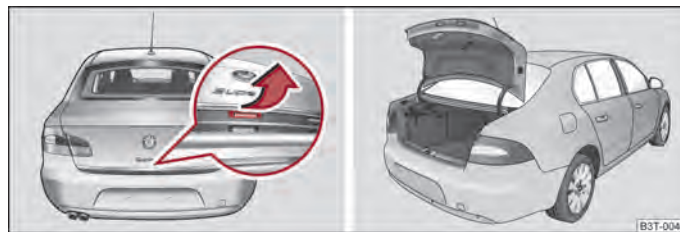

Fig. 17 Handle of boot lid/opened small boot lid
After unlocking the vehicle with the remote control key or the key ⇒ page 38 you can open the small boot lid ⇒ fig. 17.
- Press on the handle at the bottom side of the boot lid ⇒ fig. 17 - left, the boot lid lifts up automatically ⇒ fig. 17 - right.